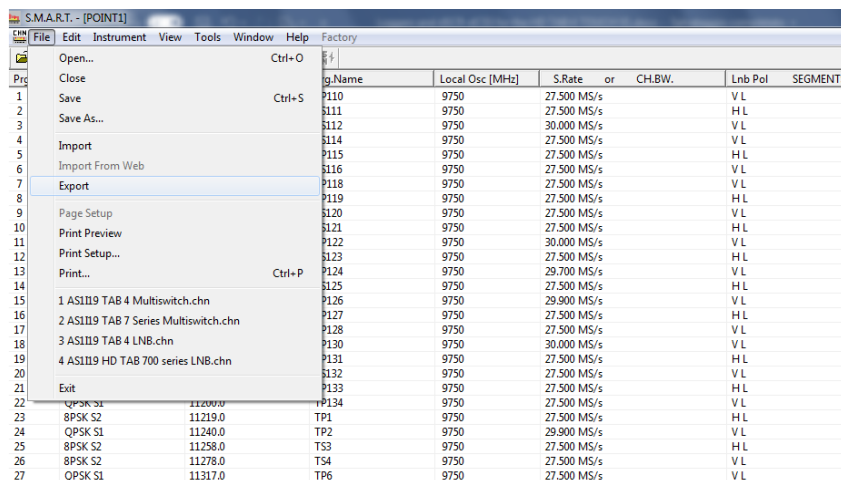

Fig.12 Export the logger file to Excel
- iv. Select “export” in the SMART File menu (ref. Fig. 12) and choose the format for the exported file: Excel.